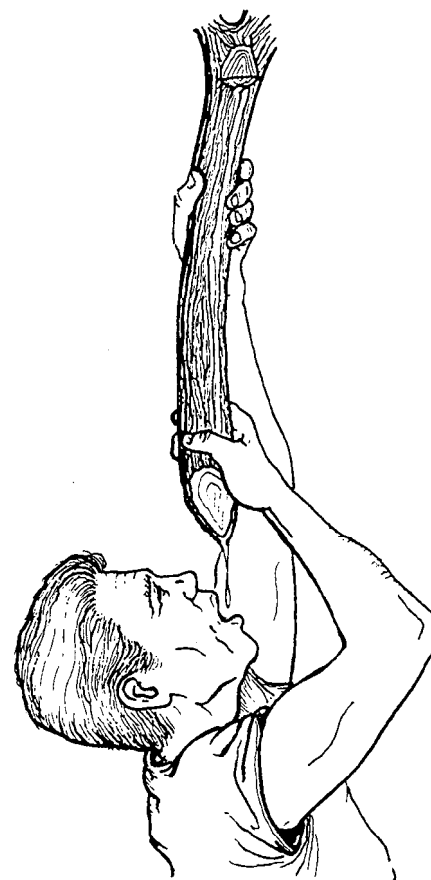

Figure 6-5.—Extracting water from vines.
4. Repeat this until the supply of fluid is exhausted. (See fig. 6-5.)